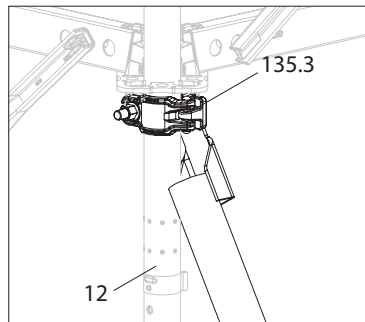

Fig. A15.04a.
(Fig. A15.04a):
2. From a safe work location, fit the upper coupling (135.3) to the standard (12). Push the coupling as close as possible to the rosette and tighten. (Fig. A15.04a)